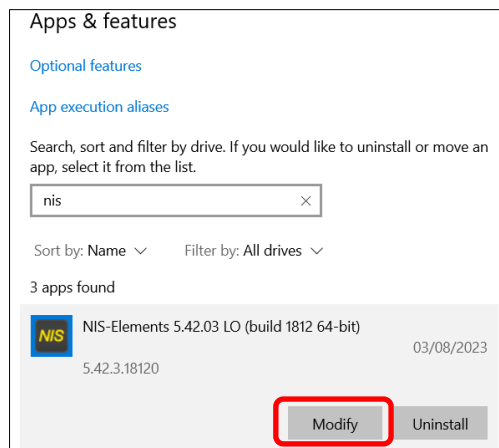
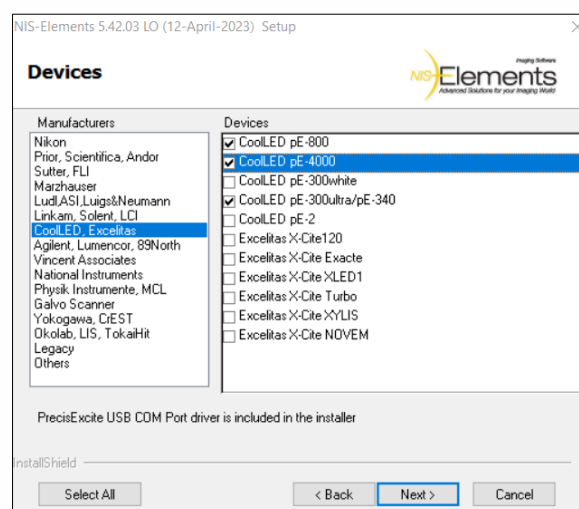

Figure 2: If modifying existing NIS-Elements installation, in Window 'Apps & features', select 'Modify' (red box) to add Illumination System
Figure 3: When 'Device' window appears during installation, select relevant CoolLED Illumination System(s)
A) If adding a new Illumination System to an existing NIS-Elements installation: The software must first be modified to select the Illumination System within the installer. In Windows settings, navigate to 'Apps & features', and select 'Modify' instead of uninstalling NIS (Figure 2). Follow the instructions and select the correct CoolLED Illumination System from 'Devices' (Figure 3).
B) If installing a NIS-Elements for the first time: During NIS-Elements installation, select the relevant CoolLED Illumination System from the 'Devices' screen (Figure 3).